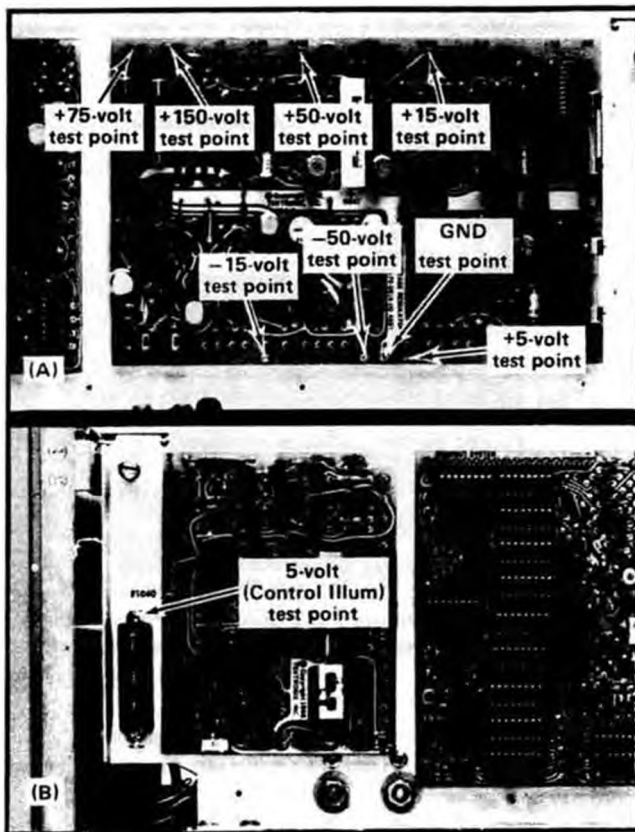

Fig. 5-5. (A) Location of power supply test points on Regulator circuit board. (B) Location of 5 Volt (Control Illum) power supply test point.
a. Table 5-1 lists the power supplies in the instrument. Check each supply with the precision DC voltmeter for output voltage within the given tolerance. Power supply test points are shown in Fig. 5-5.
j. CHECK—Refer to Fig. 5-5 for the appropriate test points and check each supply for proper regulation at 90 VAC, 115 VAC, and 136 VAC line voltages. Ripple limits are given in Table 5-1.